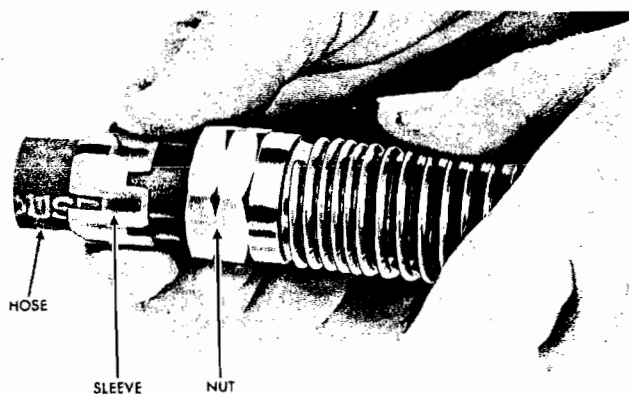

Fig. 19
5. Place connector nut and sleeve on hose (Fig. 19), being sure that barbs on inside of sleeve point toward end of hose that is being connected.